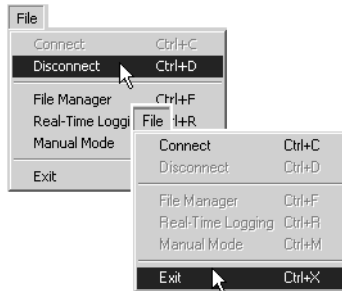

Figure 4-6. Click Disconnect then Exit
8. Continue with other operations. Or, click **File ▶ Disconnect**, then **File ▶ Exit** to quit PC-CDU (Figure 4-6).